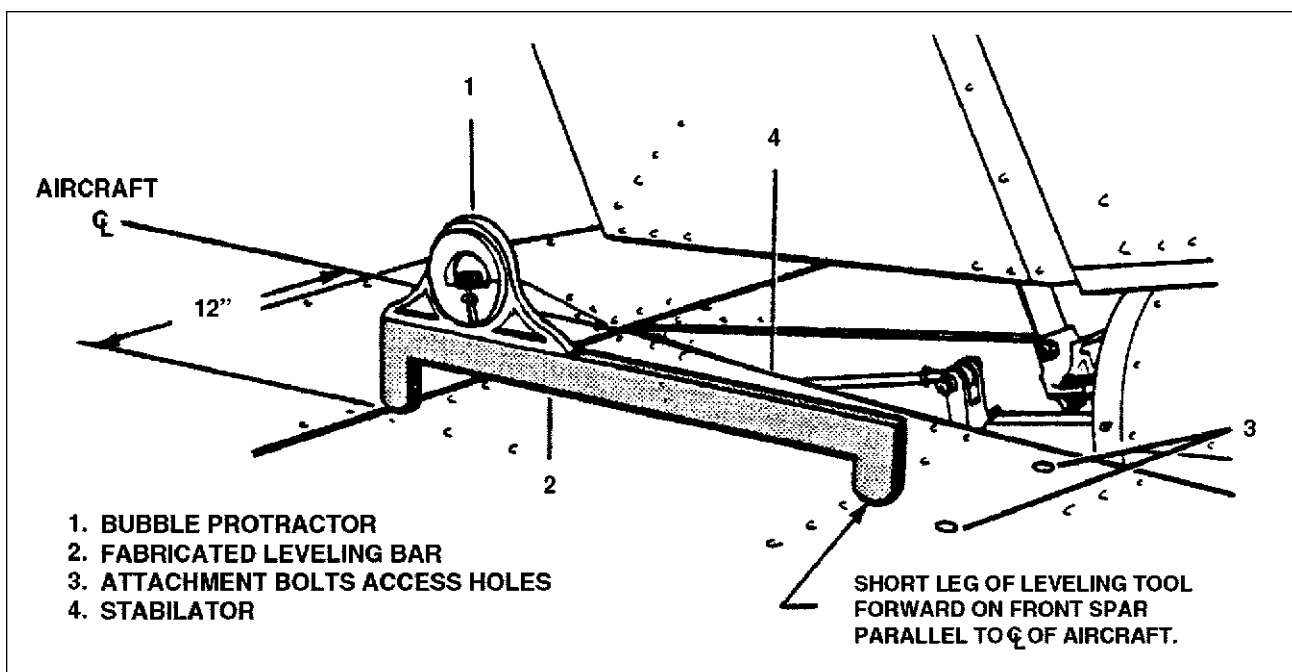
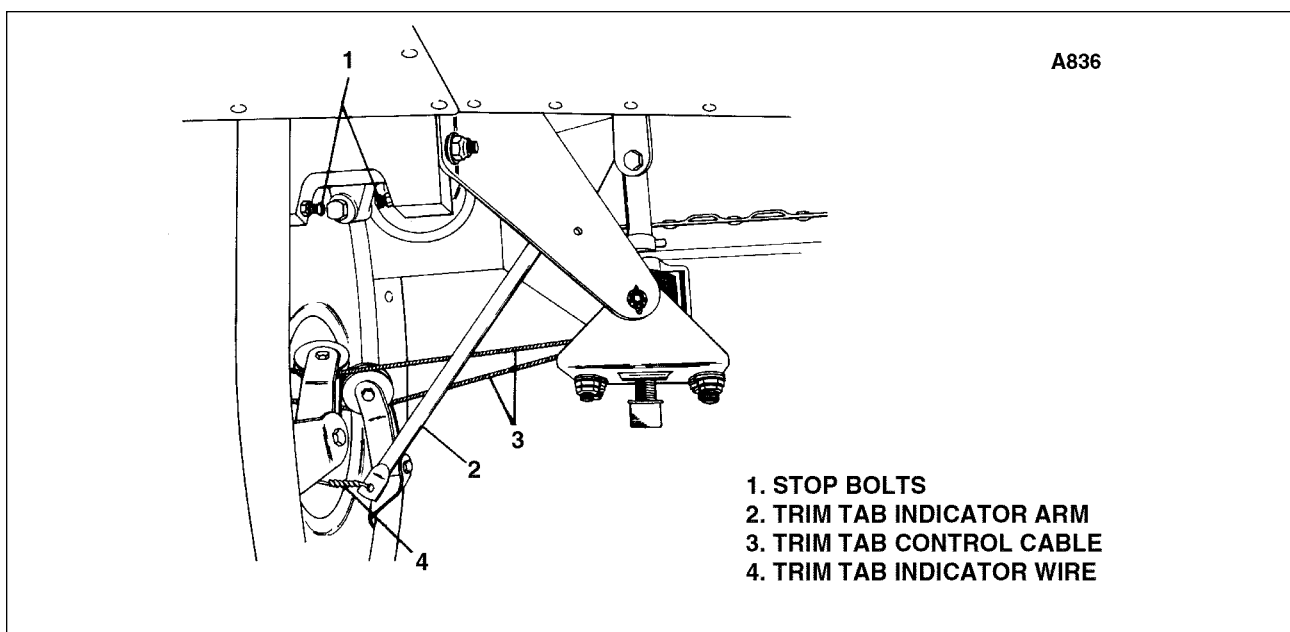

Figure 5-15. Checking Stabilator Travel.
Figure 5-16. Stabilator Adjustment Point
- B. With the aircraft level, determine the level position of the stabilator by use of a bubble protractor on a special leveling tool placed on the stabilator per dimensions in Figure 5-15. The leveling tool may be fabricated per dimensions given in Figure 5-17. Set the stabilator travel by adjusting the stop bolts at the torque tube horn (refer to Figure 5-16) and measuring the degree of travel with the bubble protractor on the leveling tool. Travel dimensions from level are given in Table V-I.